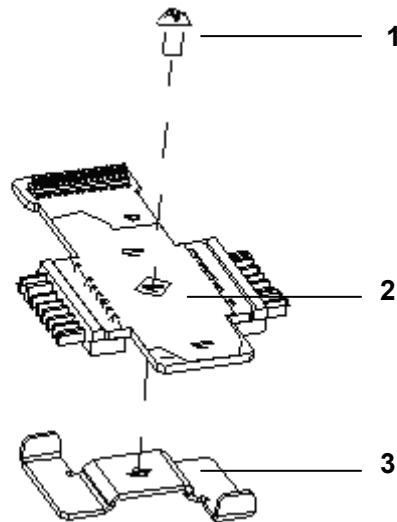

Figure 4-20 Removing Battery Socket Pressing Board
- 3) As shown in Figure 4-20, take out Philips panhead screw 1, and separate the battery socket pressing board from the battery connection board.